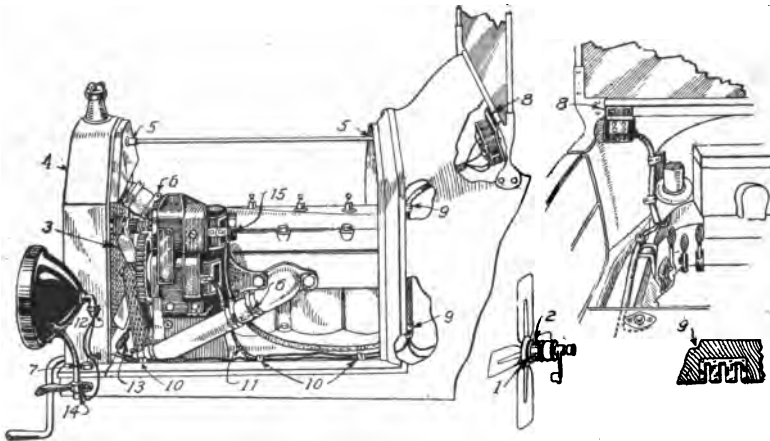

Fig. 374. Installing Gray & Davis Wiring and Lighting Switch on Ford Car
*Remounting Engine Parts.* Fit split pulley 1 to the hub of the fan, Fig. 374, and attach split pulley 2 with four screws; slip a new belt over the fan pulley, attach the fan, and adjust. Place the radiator 4 on its support and screw the radiator rod into the radiator and secure with check nut 3; secure the hose clamps at the top and side water connection 6; place the radiator nuts and secure with cotter pins. Attach the lighting switch at the cowl (left) with  $\frac{3}{16}$ -inch screws